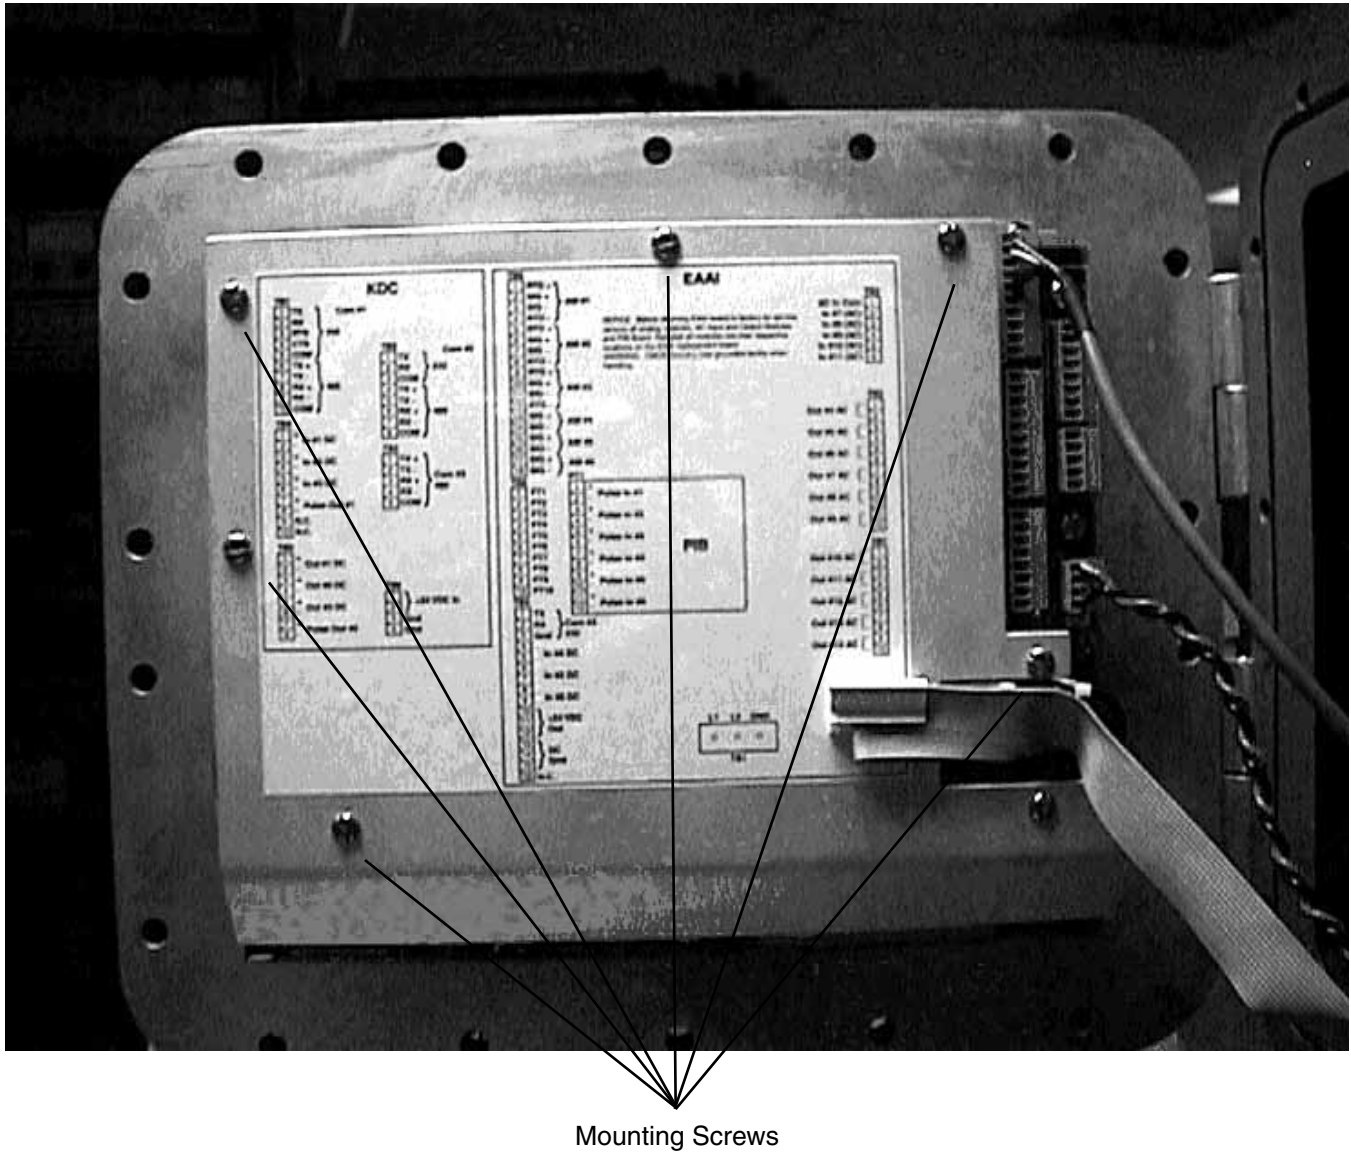

Figure 1. KDC Barrier Plate (ALIII-S hardware shown)
5. Remove the seven barrier screws and barrier plate (Figure 1) from the KDC board located on the cover.